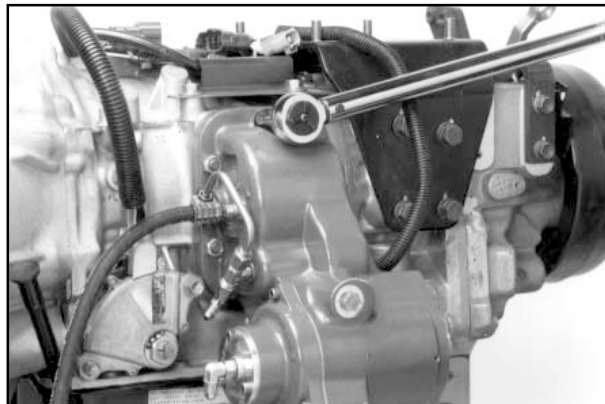

Figure 11
12. Torque the capscrews (**Figure 11**) to 25 ft. lbs. (3.4 kg). Torque the 5 nuts to 30 to 35 ft. lbs. (4.14 to 4.84 kg. meters).